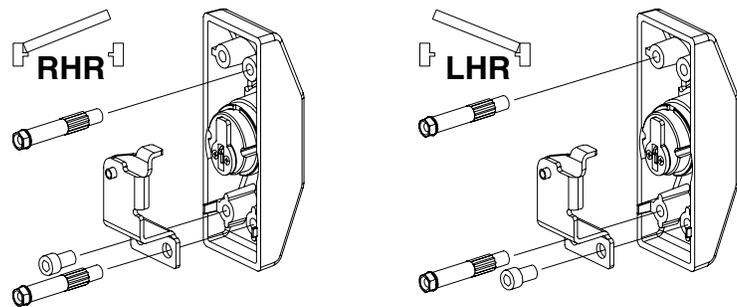

Figure 11-3
11.4. Install cylinder bracket (Figure 11-3). Install studs and screw where shown for RHR or LHR door. Make sure end of cylinder housing marked "TOP" is up.